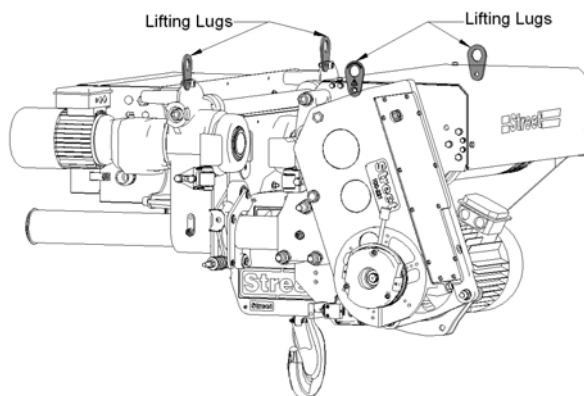

Figure 7 – Low Headroom 2&4 Fall Lifting Points
- Raise the hoist to runway level, use the lifting lugs provided see Figure 7.